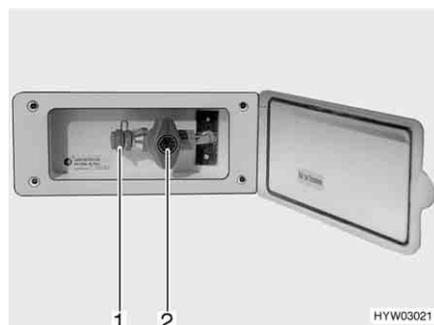

Fig. 164 External gas connection, gas isolator tap closed
The external gas connection (Fig. 164) is located at the rear or to the left or right of the vehicle depending on the model.
- Connect the external gas device to the connection point (Fig. 164,1).
- Open the gas isolator tap (Fig. 164,2).